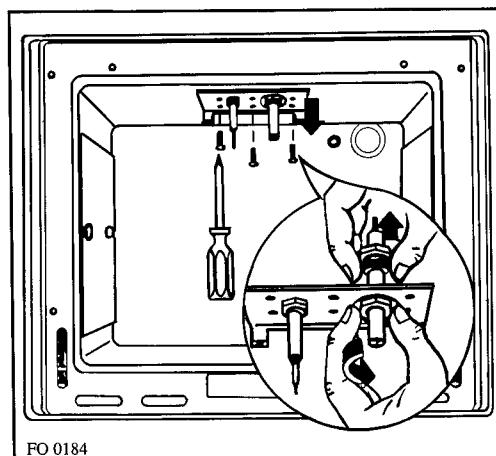

Fig. 7
### b) Grill Electrode. (Fig. 7)
6. Remove 3 fixing screws from the FSD and electrode mounting plate. (Fig. 7)